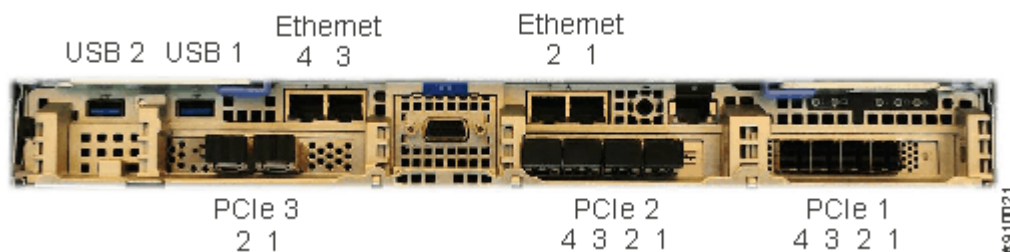
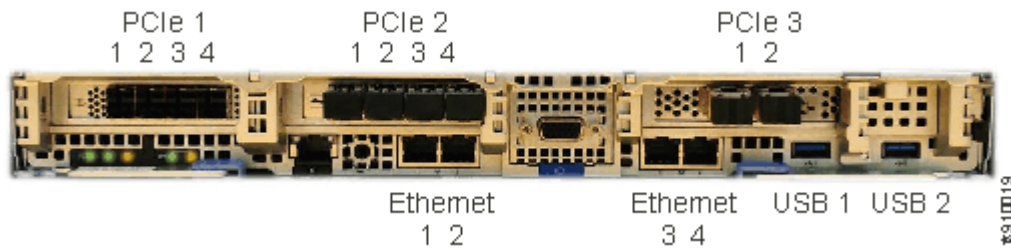

Figure 54. Ethernet ports on canister 1 (upper canister)
Figure 55. Ethernet ports on canister 2 (lower canister)
1. Connect Ethernet port 1 of each node canister in the system to the IP network that provides connection to the system management interfaces, as shown in Figure 54 on page 95 and Figure 55 on page 96.